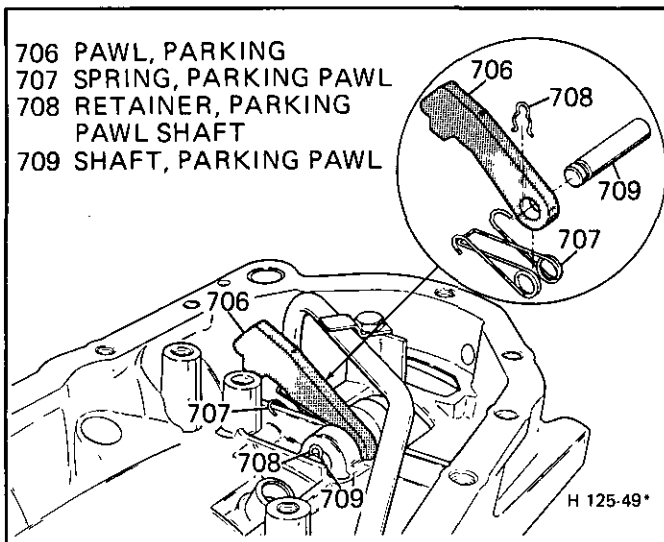

Figure 46 Parking Pawl
**Remove or Disconnect (Figure 46)**
2. Retainer (708)
3. Shaft (709)
4. Return spring (707)
5. Pawl (706)